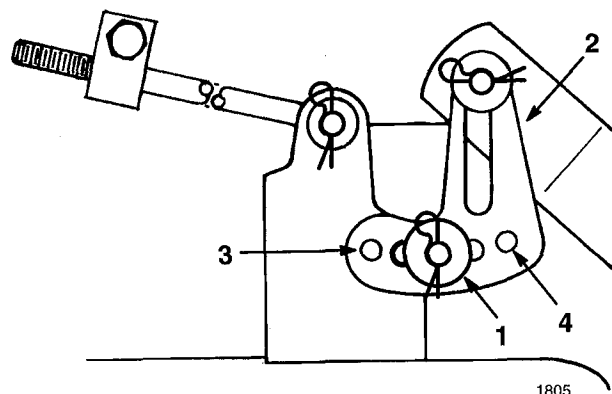

Figure 45
5. Remove the hair pin cotter and washer from the leveling bracket (Fig. 45). To level the blade(s), reposition the leveling bracket in a different hole and install the washer and hair pin cotter (Fig. 45). A front hole lowers the blade height and a rear hole raises its height. Repeat this procedure on the opposite side.